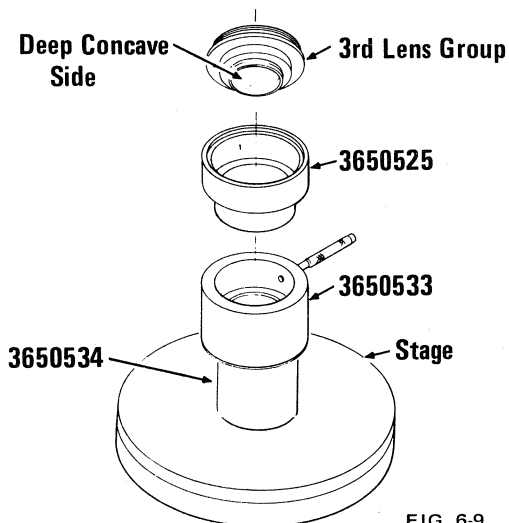

FIG. 6-9
- a) Assemble the tools, as shown in Fig. 6-9, to the microscope stage.